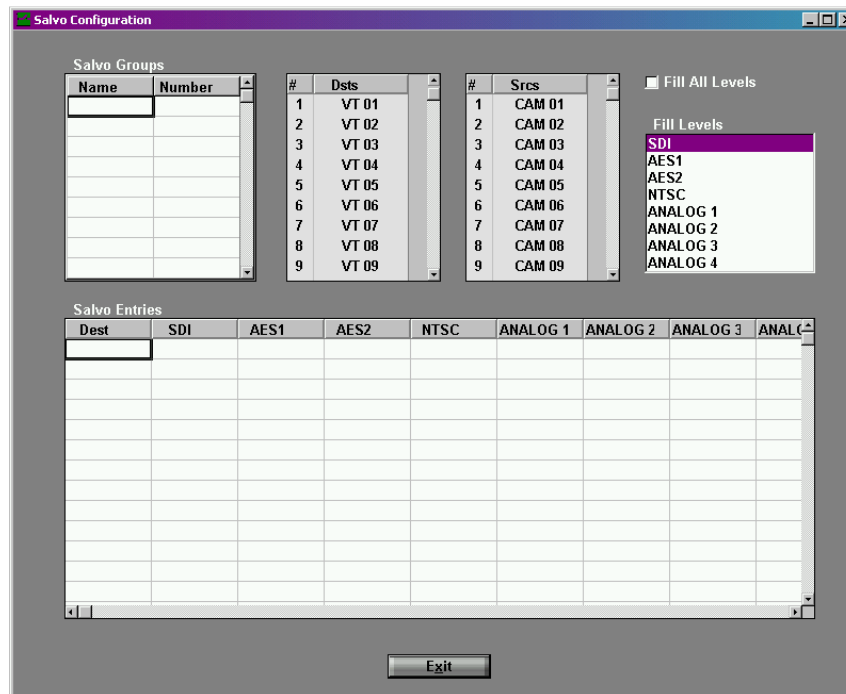

Figure 113: Salvo Configuration Screen
The Configuration > Salvo command allows you to add, edit, and delete Salvos (see Figure 113). A Salvo is a group of predefined logical switches taken at the same time. All switches in a Salvo are taken within the same vertical interval. The maximum number of Salvos is 128 (64 for the 3500Pro/LE). The maximum number of Salvo entries is 1024 that is spread across the 128 (64) Salvo Groups.